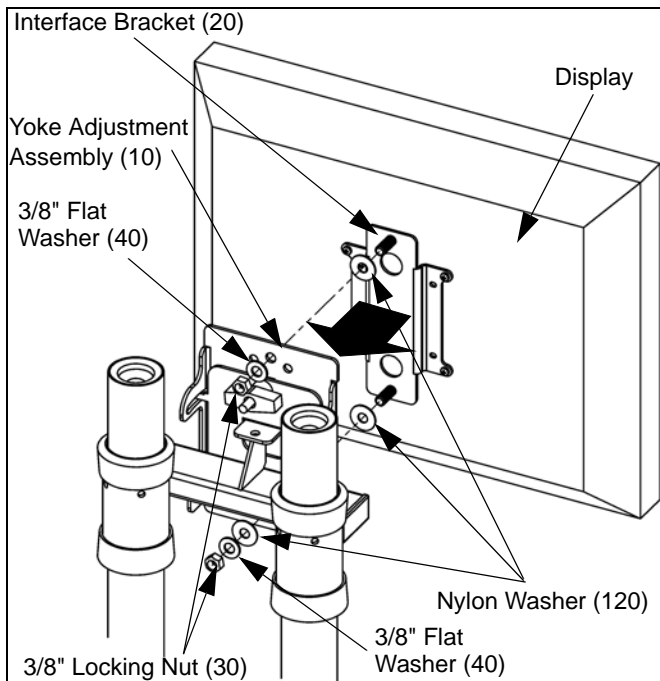

Figure 6: Mount Display
1. Using two people, lift and position display in front of mounted yoke adjustment assembly (10). (see Figure 6)
2. Assemble two large nylon washers (120) to upper and lower mounting studs on display interface bracket (20).
3. Align upper and lower mounting studs on interface bracket (20) with center holes in face plate of yoke adjustment assembly (10). (see Figure 6)
4. Install display on yoke adjustment assembly (10) by sliding upper and lower mounting studs on interface bracket (20) into center holes in face plate of yoke adjustment assembly (10). (see Figure 6)
5. Secure display to yoke adjustment assembly (10) using one large nylon washer (120), two 3/8" flat washers (40) and two 3/8" locking nuts (30). (see Figure 6)